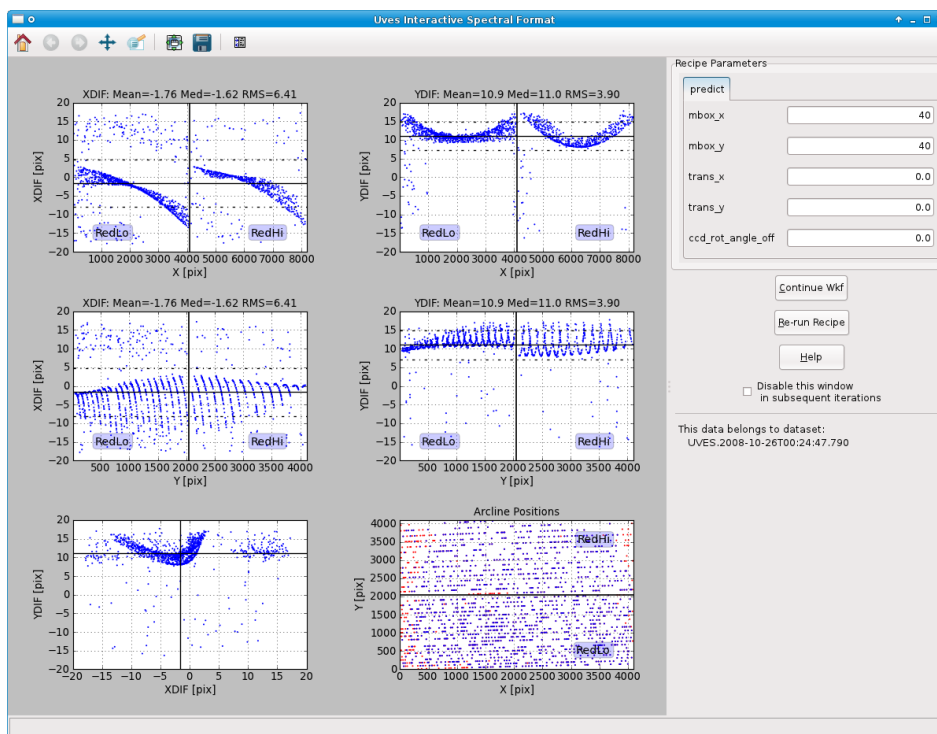

Figure 6.7: The interactive window for the Spectrum Locator actor for the first DataSet in the data supplied with Reflex 2.2..
5. **Spectrum Locator:** During the execution of the `Spectrum Locator` actor, an interactive window will appear as shown in Figure 6.7. The interactive window consists of six plots, five pipeline recipe parameters that may be changed, four buttons on the right, and a panel of buttons at the top-left. Help for each of these features may be accessed by leaving the mouse pointer for about one second over the plot/parameter/button for which information is required.